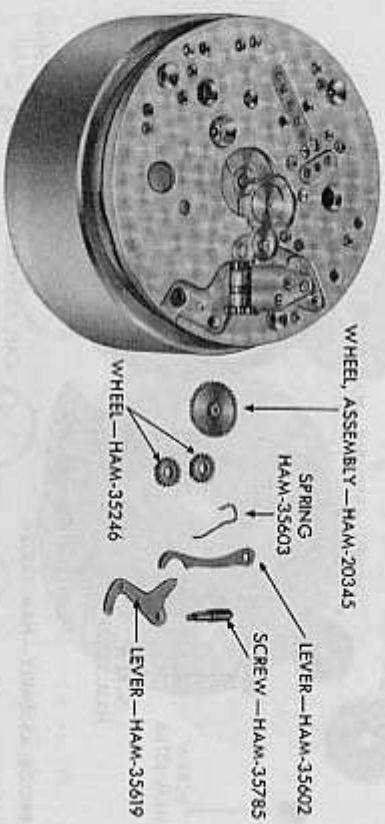

Figure 63 — Hamilton Pocket Watch — Winding and Setting Assembly Removed
q. Remove Winding and Setting Assembly (fig. 63). Remove winding wheel by lifting off with tweezers; then remove two setting wheels. Remove clutch lever spring; in doing so, place the end of the index finger over the clutch lever stud to prevent the spring from snapping off and being lost. Remove clutch lever. Turn movement
e. **Replace Winding and Setting Mechanism (fig. 63).** Invert the movement, placing it dial side up on the movement block. Place shipper lever in position on pillar plate. Cover end of index finger of the left hand with watchmaker's paper and hold the shipper lever in position. Grasp the movement and invert it; replace the shipper lever screw and secure. Replace movement on movement block with dial side up. Push the winding and setting clutch in toward the center of the pillar plate. Place the clutch lever on its stud on the pillar plate and align the stud under the clutch lever so that it will fall into the recess of the clutch. Replace clutch lever spring on its stud. Hold the clutch lever spring in position with one screwdriver and pull the